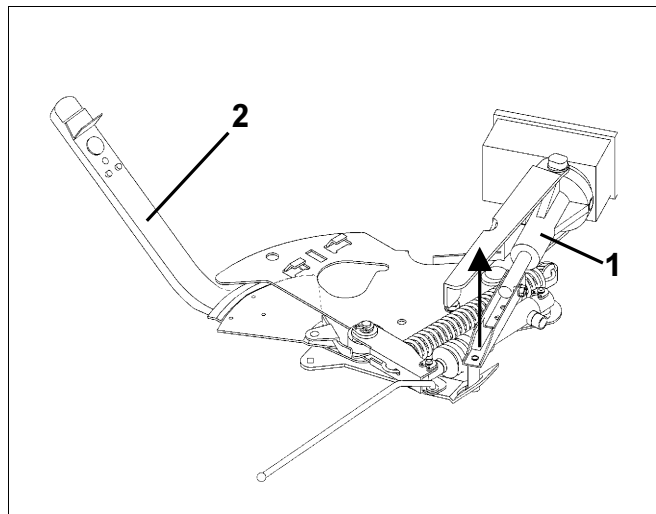

Fig. 103
- Lift the setting motor (Fig. 103/1) and unhook the setting spindle (Fig. 103/2) from the plug connection of the setting lever.